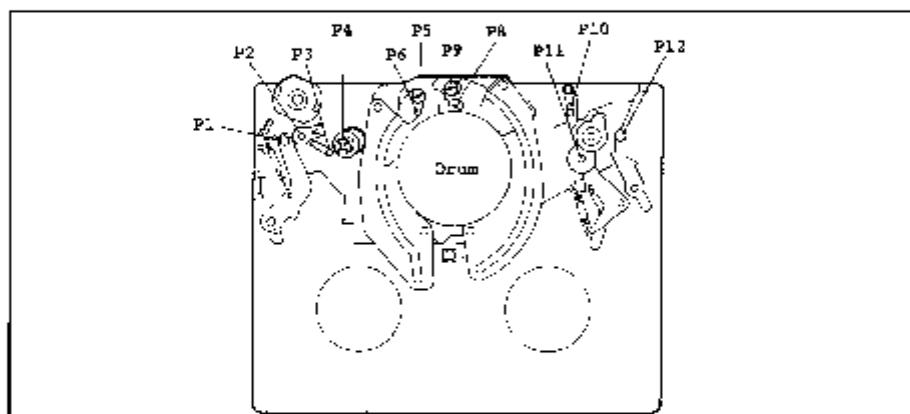

Fig. II-2
### 2-2 Cleaning of tape path (Fig. II-2)
- (1) In EJECT mode, clean the tape path (P1, 2, 3, 4, 5, 6, 8, 9, 10, 11, 12 and pinch roller) and the lower drum by using a lens tissue with ethyl alcohol moistened. (See Fig. II-2)